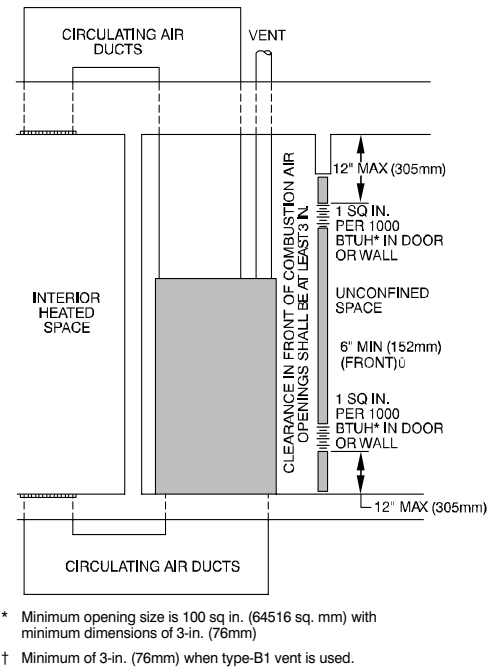

Fig. 7 – Air for Combustion, Ventilation, and Dilution from Indoors
- b. Combining spaces on same floor level. Each opening shall have free area of at least 1 in.2/1,000 BTU_h (2,000 mm²/kW) of the total input rating of all gas appliances in the space, but not less than 100 in.2 (0.06 m²). One opening shall commence within 12 in. (300 mm) of the ceiling and the second opening shall commence within 12 in. (300 mm) of the floor. The minimum dimension of air openings shall be at least 3 in. (80 mm). See Fig. 7.